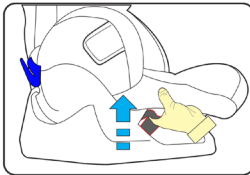

Figure 1
STEP 1: At the front of the restraint is a GREY* lever. Lift the lever to recline. (refer **Figure 1**)